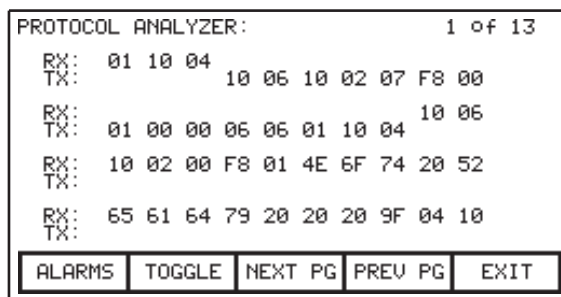

Figure 245 - Hexadecimal Displayed
- the data shown in hexadecimal (Figure 245)